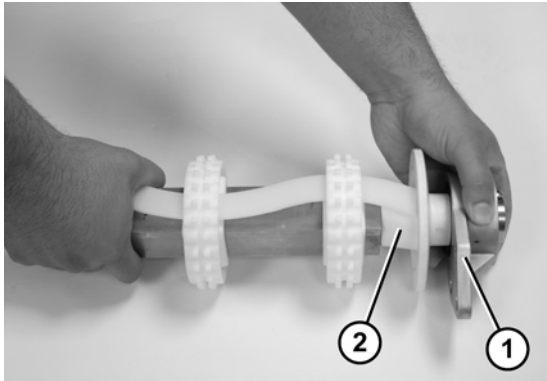

Figure 75
4. Attach the flanged pucks (Figure 75, item 1) and the 3 hole flange with bearing (Figure 75, item 2) to the drive spindle.